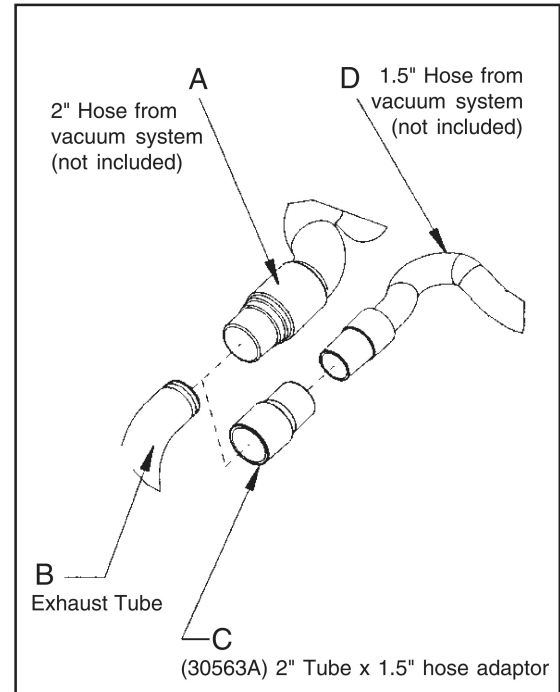

Figure 1
1. Install 2" hose end (figure 1, A) directly over the exhaust tube (figure 1, B).
1. Install the 2" x 1½" hose end adaptor (Part No. 30563A) (figure 1, C) over the exhaust tube (figure 1, B).
2. Insert 1 ½" hose end (figure 1, D) into the adaptor (figure 1, C).